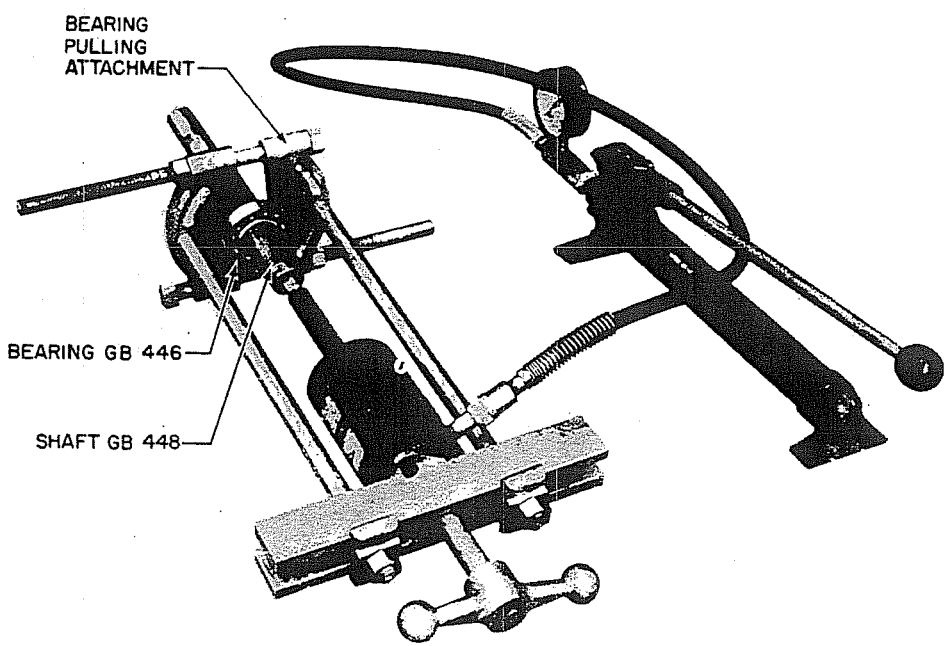

Figure 11. 4 to 1 Shaft, Removal of Bearing GB446
- G. Secure the bearing pulling attachment behind the inner race of Bearing GB446 and apply pressure to the shaft to free the bearing from Shaft GB448 (figure 11).